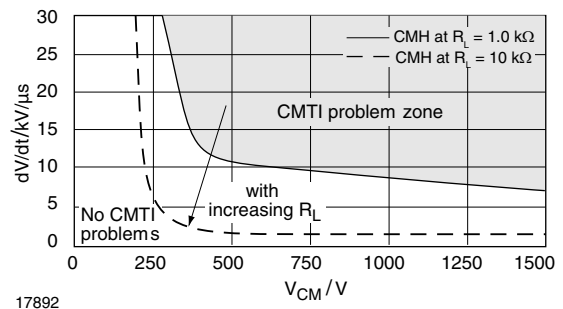
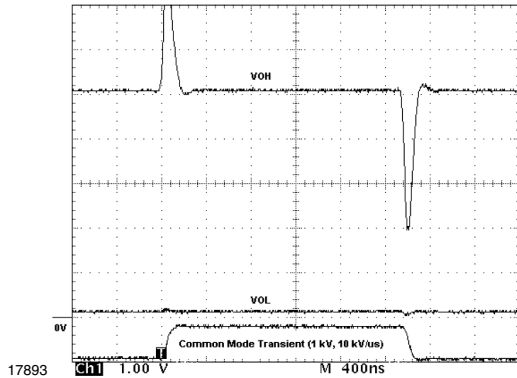

Fig. 16 - Typical CMH Characteristics for 4 pin Transistor Optocouplers
Fig. 17 - Typical Behavior of a 4-pin Optocoupler During Excessive Common Mode Transients
In general these optocouplers are very robust to common mode transients because that the base is not connected. Hence, the common mode transient immunity is mainly determined by direct coupling to the output via CCMO. The duration of the output signal distortion matches with the transient change (rising or falling edge). Refer to figure 17. The following considerations only apply to systems which can react to distorted signals which are in the range of a few hundred nanoseconds and less. The off state (CMH) is in most applications the critical one and thus limits the overall performance. Figure 16 shows the typical dv/dt vs. VCM curve for two different pull up resistor values.
- If operating the phototransistor in transistor switch or emitter follower mode, choose a low-value pull up resistor (compare with figure 16)